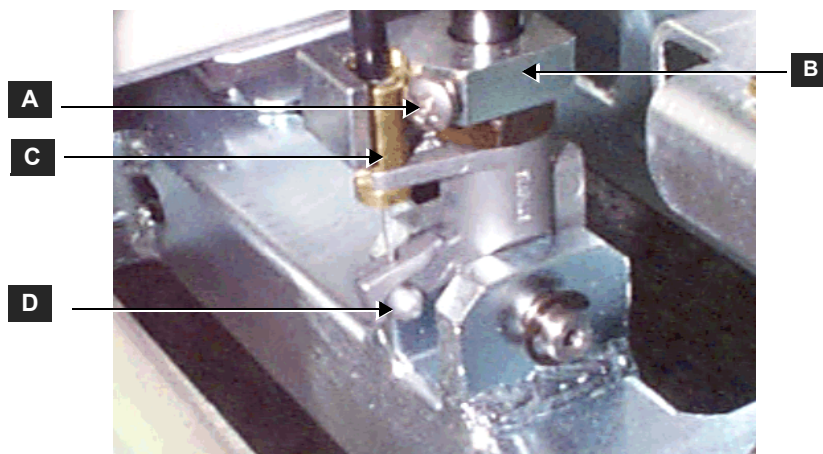
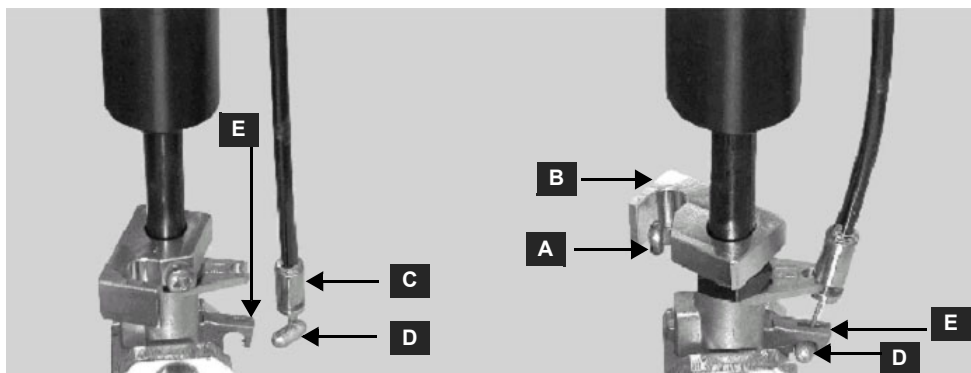

Figure 8-71 Gas Spring Rod and Cable Holder - Lower End (from Rear)
Figure 8-72 Gas Spring Rod and Cable Holder - Close-up Views
NOTE: For clarification, the letters appearing in square brackets [] in the following steps correspond to the letters shown in Figure 8-71 and Figure 8-72 below.
NOTE: For clarification, the letters appearing in square brackets [] in the following steps correspond to the letters shown in Figure 8-71 on page 8-89 and Figure 8-72 on page 8-90.
- 3) Working from the *rear* of the machine, fit the cable end stopper [D] on the trigger arm [E] - refer to Figure 8-72 on page 8-90.